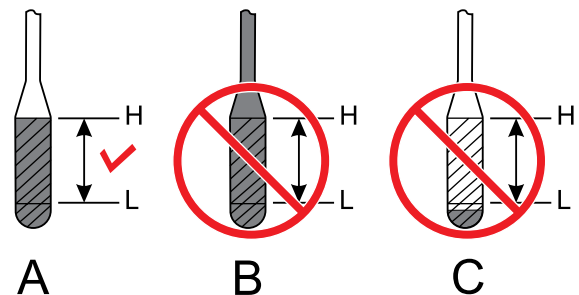

Figure 76. Dipstick Engine Oil Level
3. Reinsert the dipstick, then remove the dipstick from its holder. Check the oil level shown on the dipstick (Figure 76).